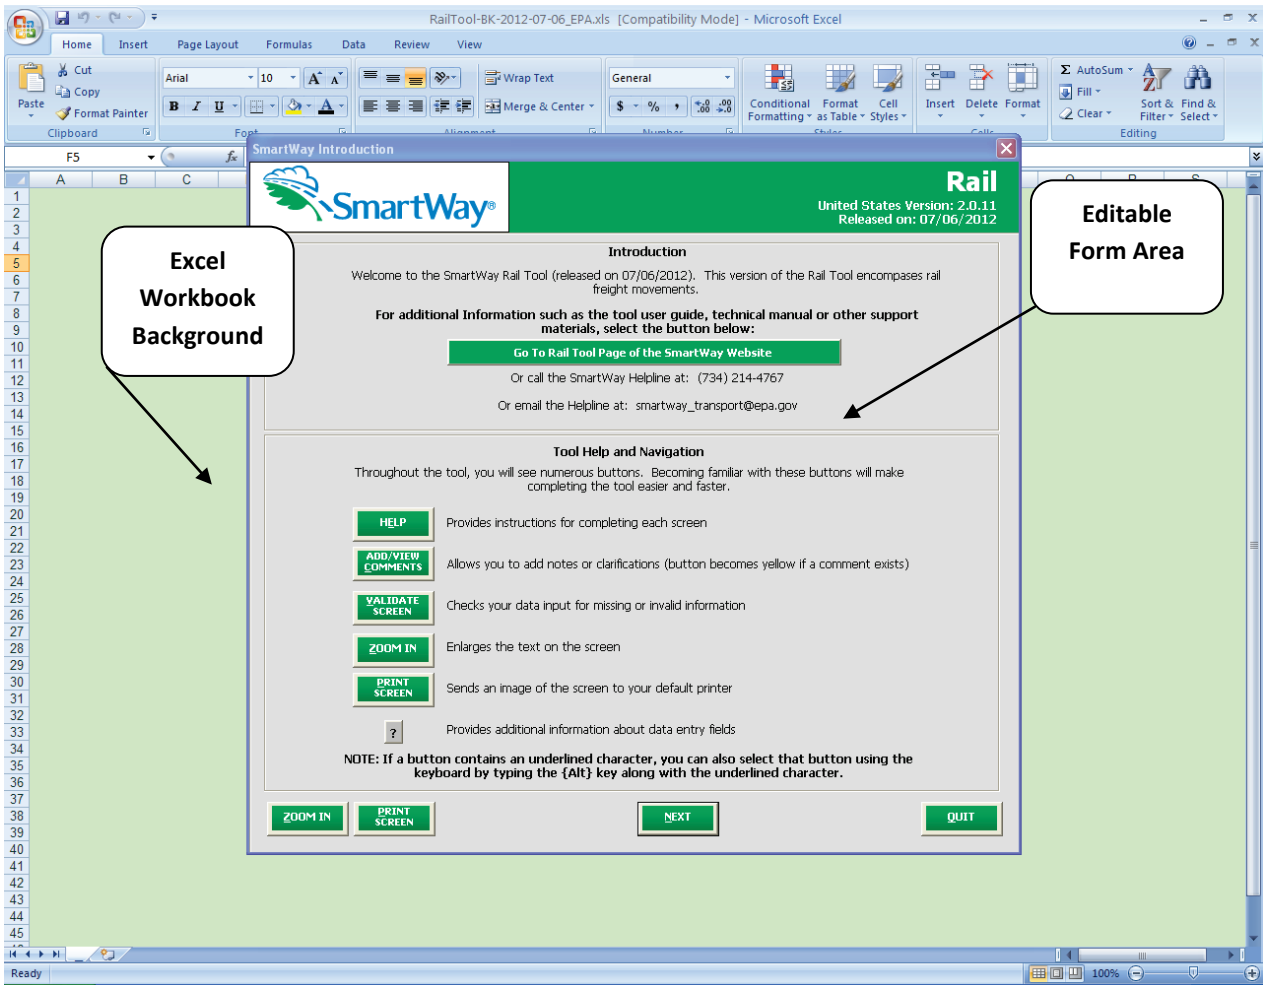

Figure 4: Rail Carrier FLEET Tool Welcome Screen
- 3) Select the **Enable Macros** button in the security warning box. The following screen (**Figure 4**) should appear:
The part of the tool that you fill out resides in the gray, blue, and dark green forms that appear on the screen. The Excel workbook that remains in the background – and which normally appears as a light green screen as in **Figure 4** – is where all of the data you enter is actually stored. *However, for the purpose of your data entry, please do not enter data in the background workbook.*